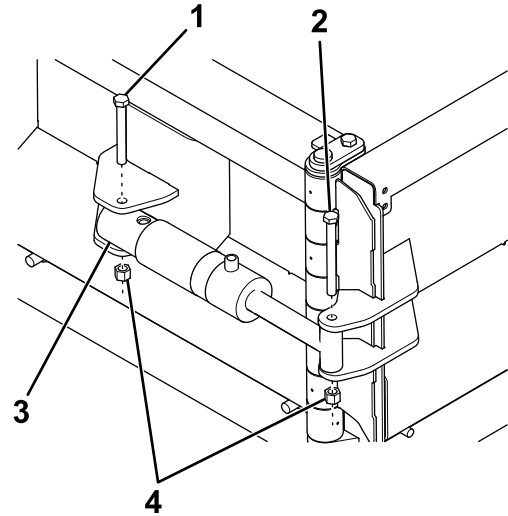

Figure 9
- On the opposite side of the blade, loosely attach the body end of the 2 wing hydraulic cylinders to the center blade using 2 bolts (1/2 x 4 inches) and locknuts (1/2 inch) as shown in Figure 9.
- Loosely attach the arm end of the wing hydraulic cylinders to the blade wings using 2 shear bolts (1/2 x 5 inches) and locknuts (1/2 inch) as shown in Figure 9.